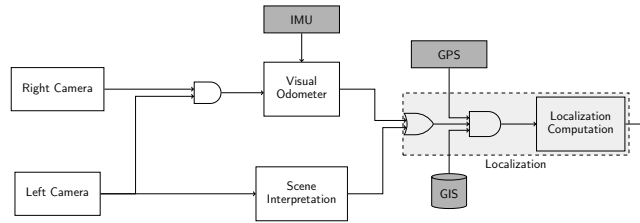

Figure 3: Localisation system architecture
**Question 5** Open the **Exercice2/System.alt** file and complete the altarica model of **MainSystem** accordingly to the architecture depicted in the figure 3.